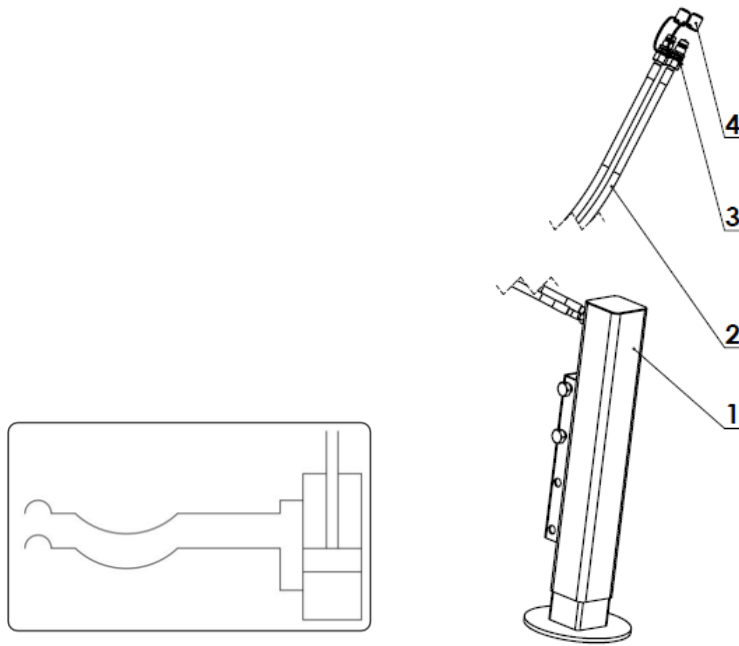

Figure 4.9. Design and diagram of the adjustable drawbar support
The hydraulic system (fig. 4.9) is used to adjust the height of drawbar support (1) in order to support the trailer when it is detached from the tractor. The hydraulic support system can be used to achieve suitable drawbar height during disconnection and connection of the trailer to the tractor.